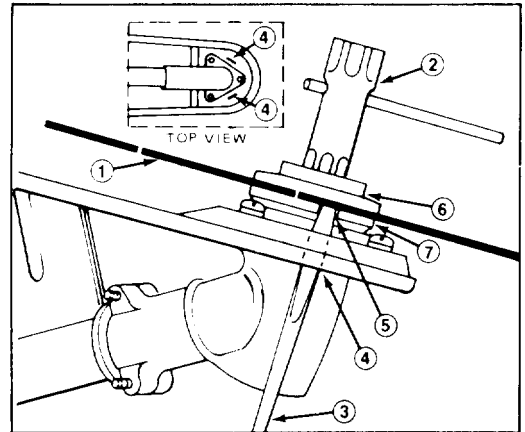

Figure 4
4. Keep shaft from rotating by holding screwdriver as shown and tightening nut securely with wrench (Left hand thread) (Fig. 4).